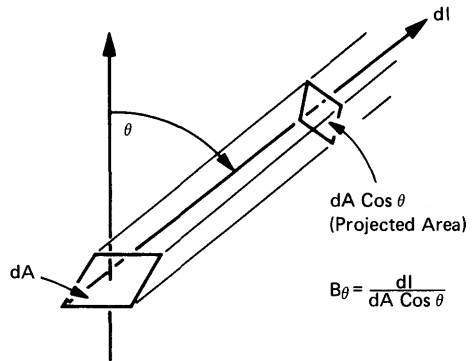

Figure 5. Definition of luminance.
For an extended radiating surface, (such as an LED chip), each element of area contributes to the luminous intensity of the source, in any given direction. The luminous intensity contribution in the given direction, divided by the projected area of the surface element in that direction, is called the LUMINANCE (B) of the source (in that direction), (Fig. 5). The quantity is sometimes called photometric brightness, or simply brightness. The use of the term brightness on its own, should be discouraged, as this involves various subjective properties such as texture, color, sparkle, apparent size, etc. that have psychological implications.